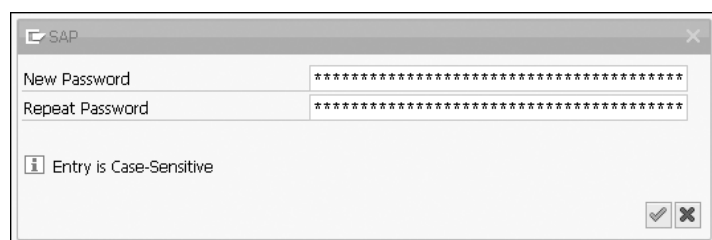

Figure 5.6 Entering the New Password
- 7 Enter the new password twice, once each in the **New Password** and **Repeat Password** fields. The characters aren't visible during entry (Figure 5.6).